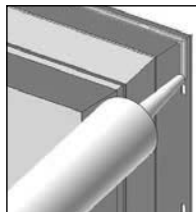

FIG. 12
- a. Apply a 1/4" diameter bead of 100% neutral cure silicone sealant along the backside of the nailing flange. (Fig. 12)
- b. Bead must run continuously around both sides and across the head, in line with and completely covering the nailing flange holes. (Fig. 12)